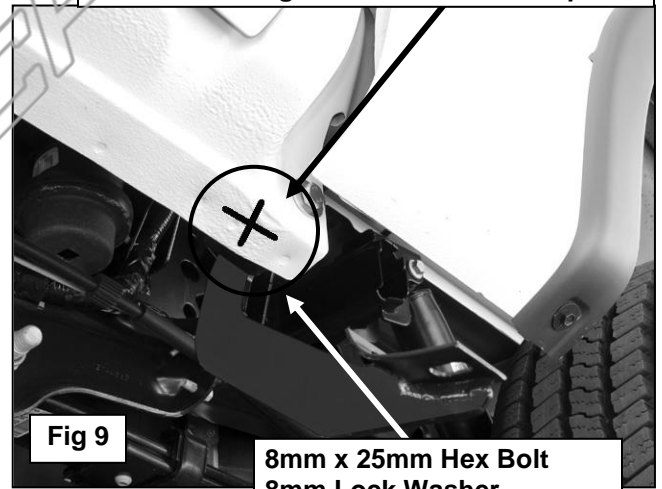

Fig 9
- a. **Optional Drilling:** The Rear Bracket has an additional hole on the bottom of the plate where the Bracket rests on the pinch weld. Use the Bracket as a guide and drill a 3/8" hole through the Bracket and pinch weld, (**Figure 9**). Bolt the Bracket to the pinch weld with (1) 8mm x 25mm Hex Bolt, (1) 8mm Lock Washer, (2) 8mm STD Flat Washers and (1) 8mm Hex Nut. Do not tighten hardware at this time.